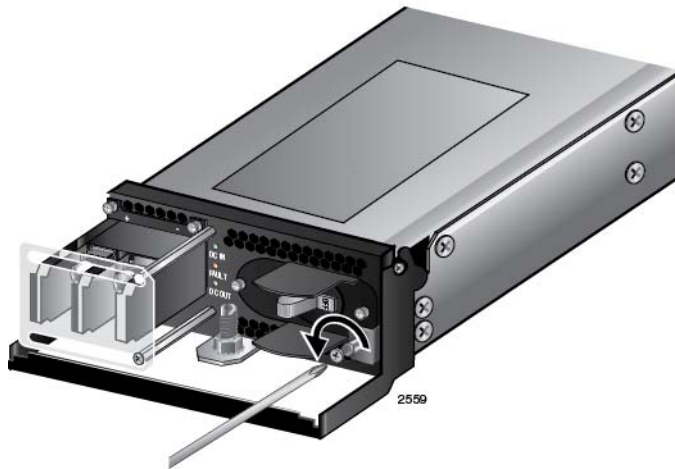

Figure 60. Loosening the Handle locking Screw on the AT-SBxPWRPOE1 DC System Power Supply
4. With a #2 Phillips-head screwdriver, loosen the handle locking screw on the power supply, as shown in Figure 60 on page 121.